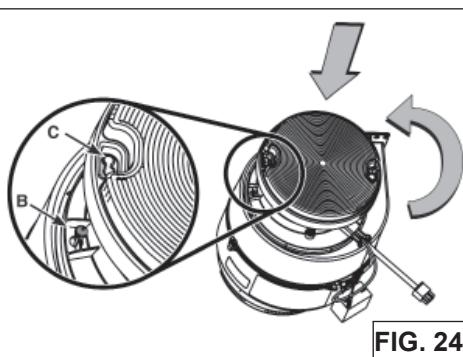

FIG. 24
3. Position each filter over its support, insert both pins (B) into the round slot (C) on filter side and rotate to lock in place (Fig.24).